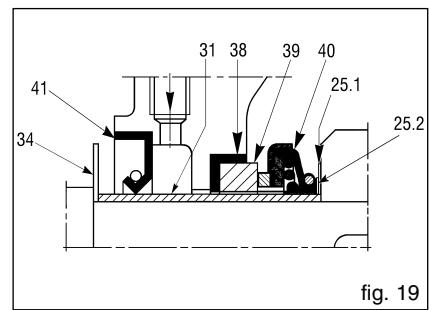

fig. 19
To achieve this, dimensions A and B in figs. 21, 22, 24, 25 must be nearly as possible equal. To this end, use the shims (25.2) (fig. 19) supplied with spare mechanical seals. These shims are used to move the impeller further forward if it is too far from the front wear plate or too near the rear wear plate (where foreseen). The shims should be mounted between the seal support ring (25.1) (fig. 19) and the impeller. Further adjustments can be carried out using casing gaskets and rear wear plate gaskets (where foreseen). The presence of the casing gasket (43) (fig. 10) 0,5 mm thick then creates the correct distance (fig. 23).